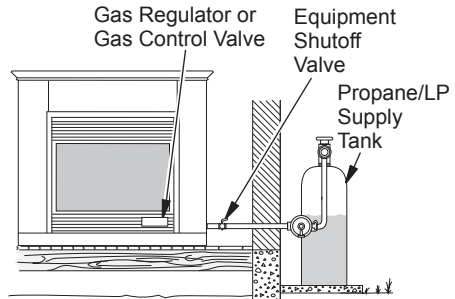

Figure 17 - Checking Gas Joints (Propane/LP Only)
pane/LP supply to equipment shutoff valve for propane/LP (see Figures 17 or 18). Apply noncorrosive leak detection fluid to all joints. Bubbles forming show a leak.
4. Check all joints from equipment shutoff valve to gas regulator (Thermostat-Controlled Models) or to gas control valve (Remote-Ready Models) (see Figures 17 or 18). Apply noncorrosive leak detection fluid to all joints. Bubbles forming show a leak.